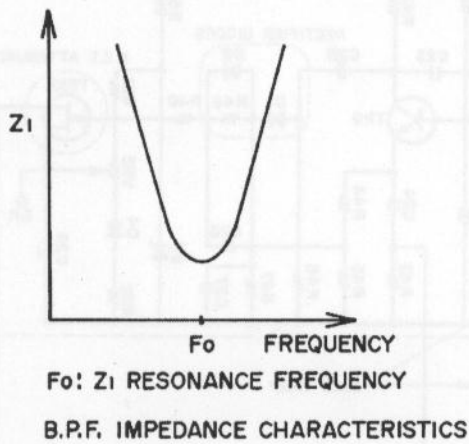

Fig. 42
2. Z0 impedance is the composite impedance of Z1 of which the impedance is changed by the frequency and Z2 which is changed depending upon the signal level. (See Figs. 42, 43)